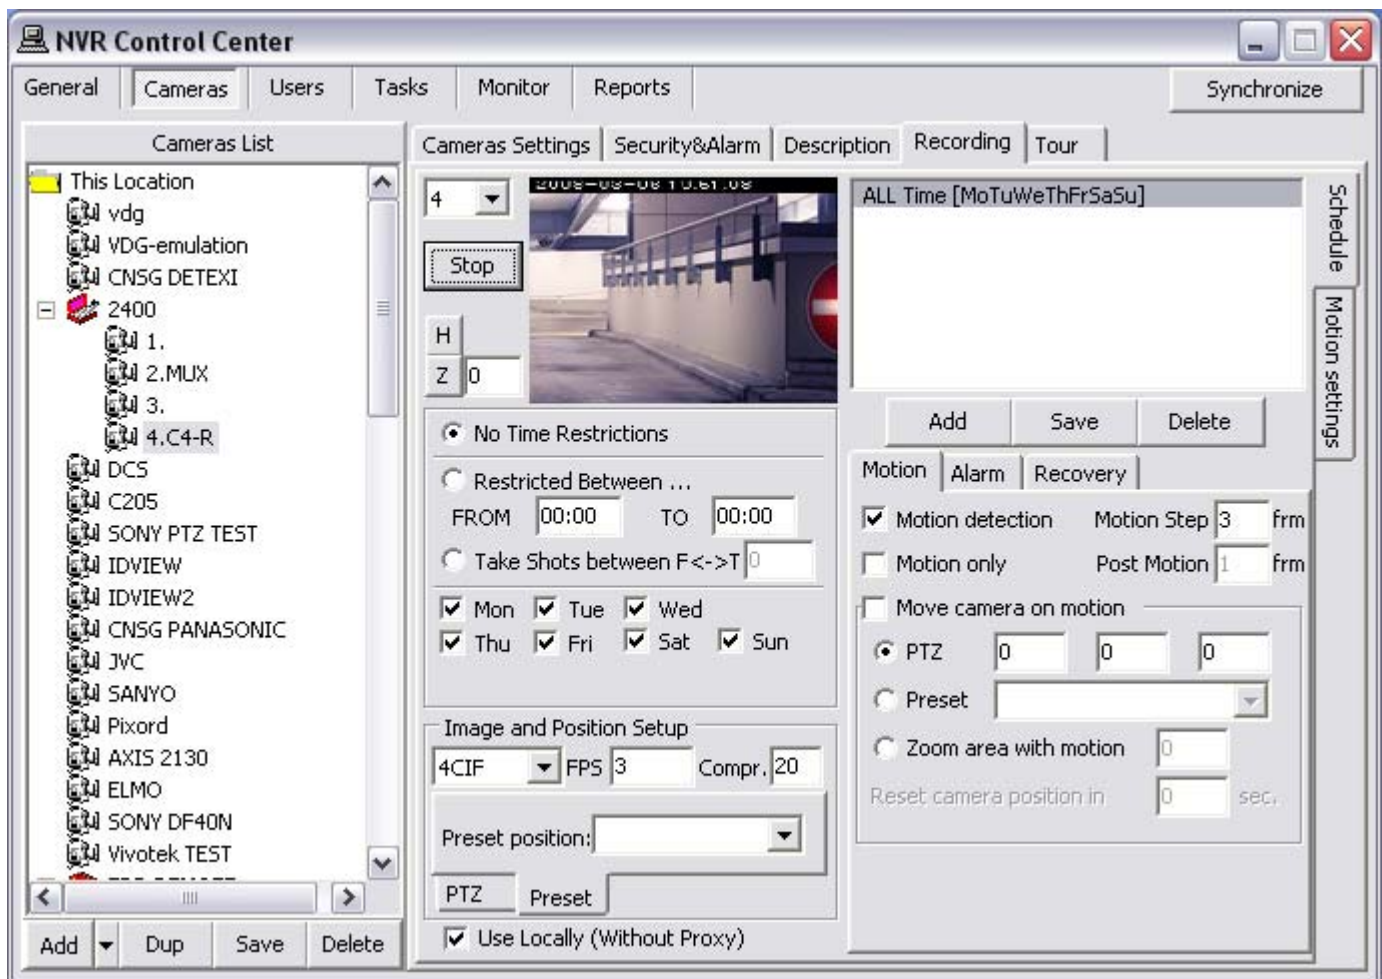

Fig 50. NVR Control Center — Cameras — Recording — Schedule
2. Set the **Motion Step** — the sample rate for motion analysis (Fig 50).